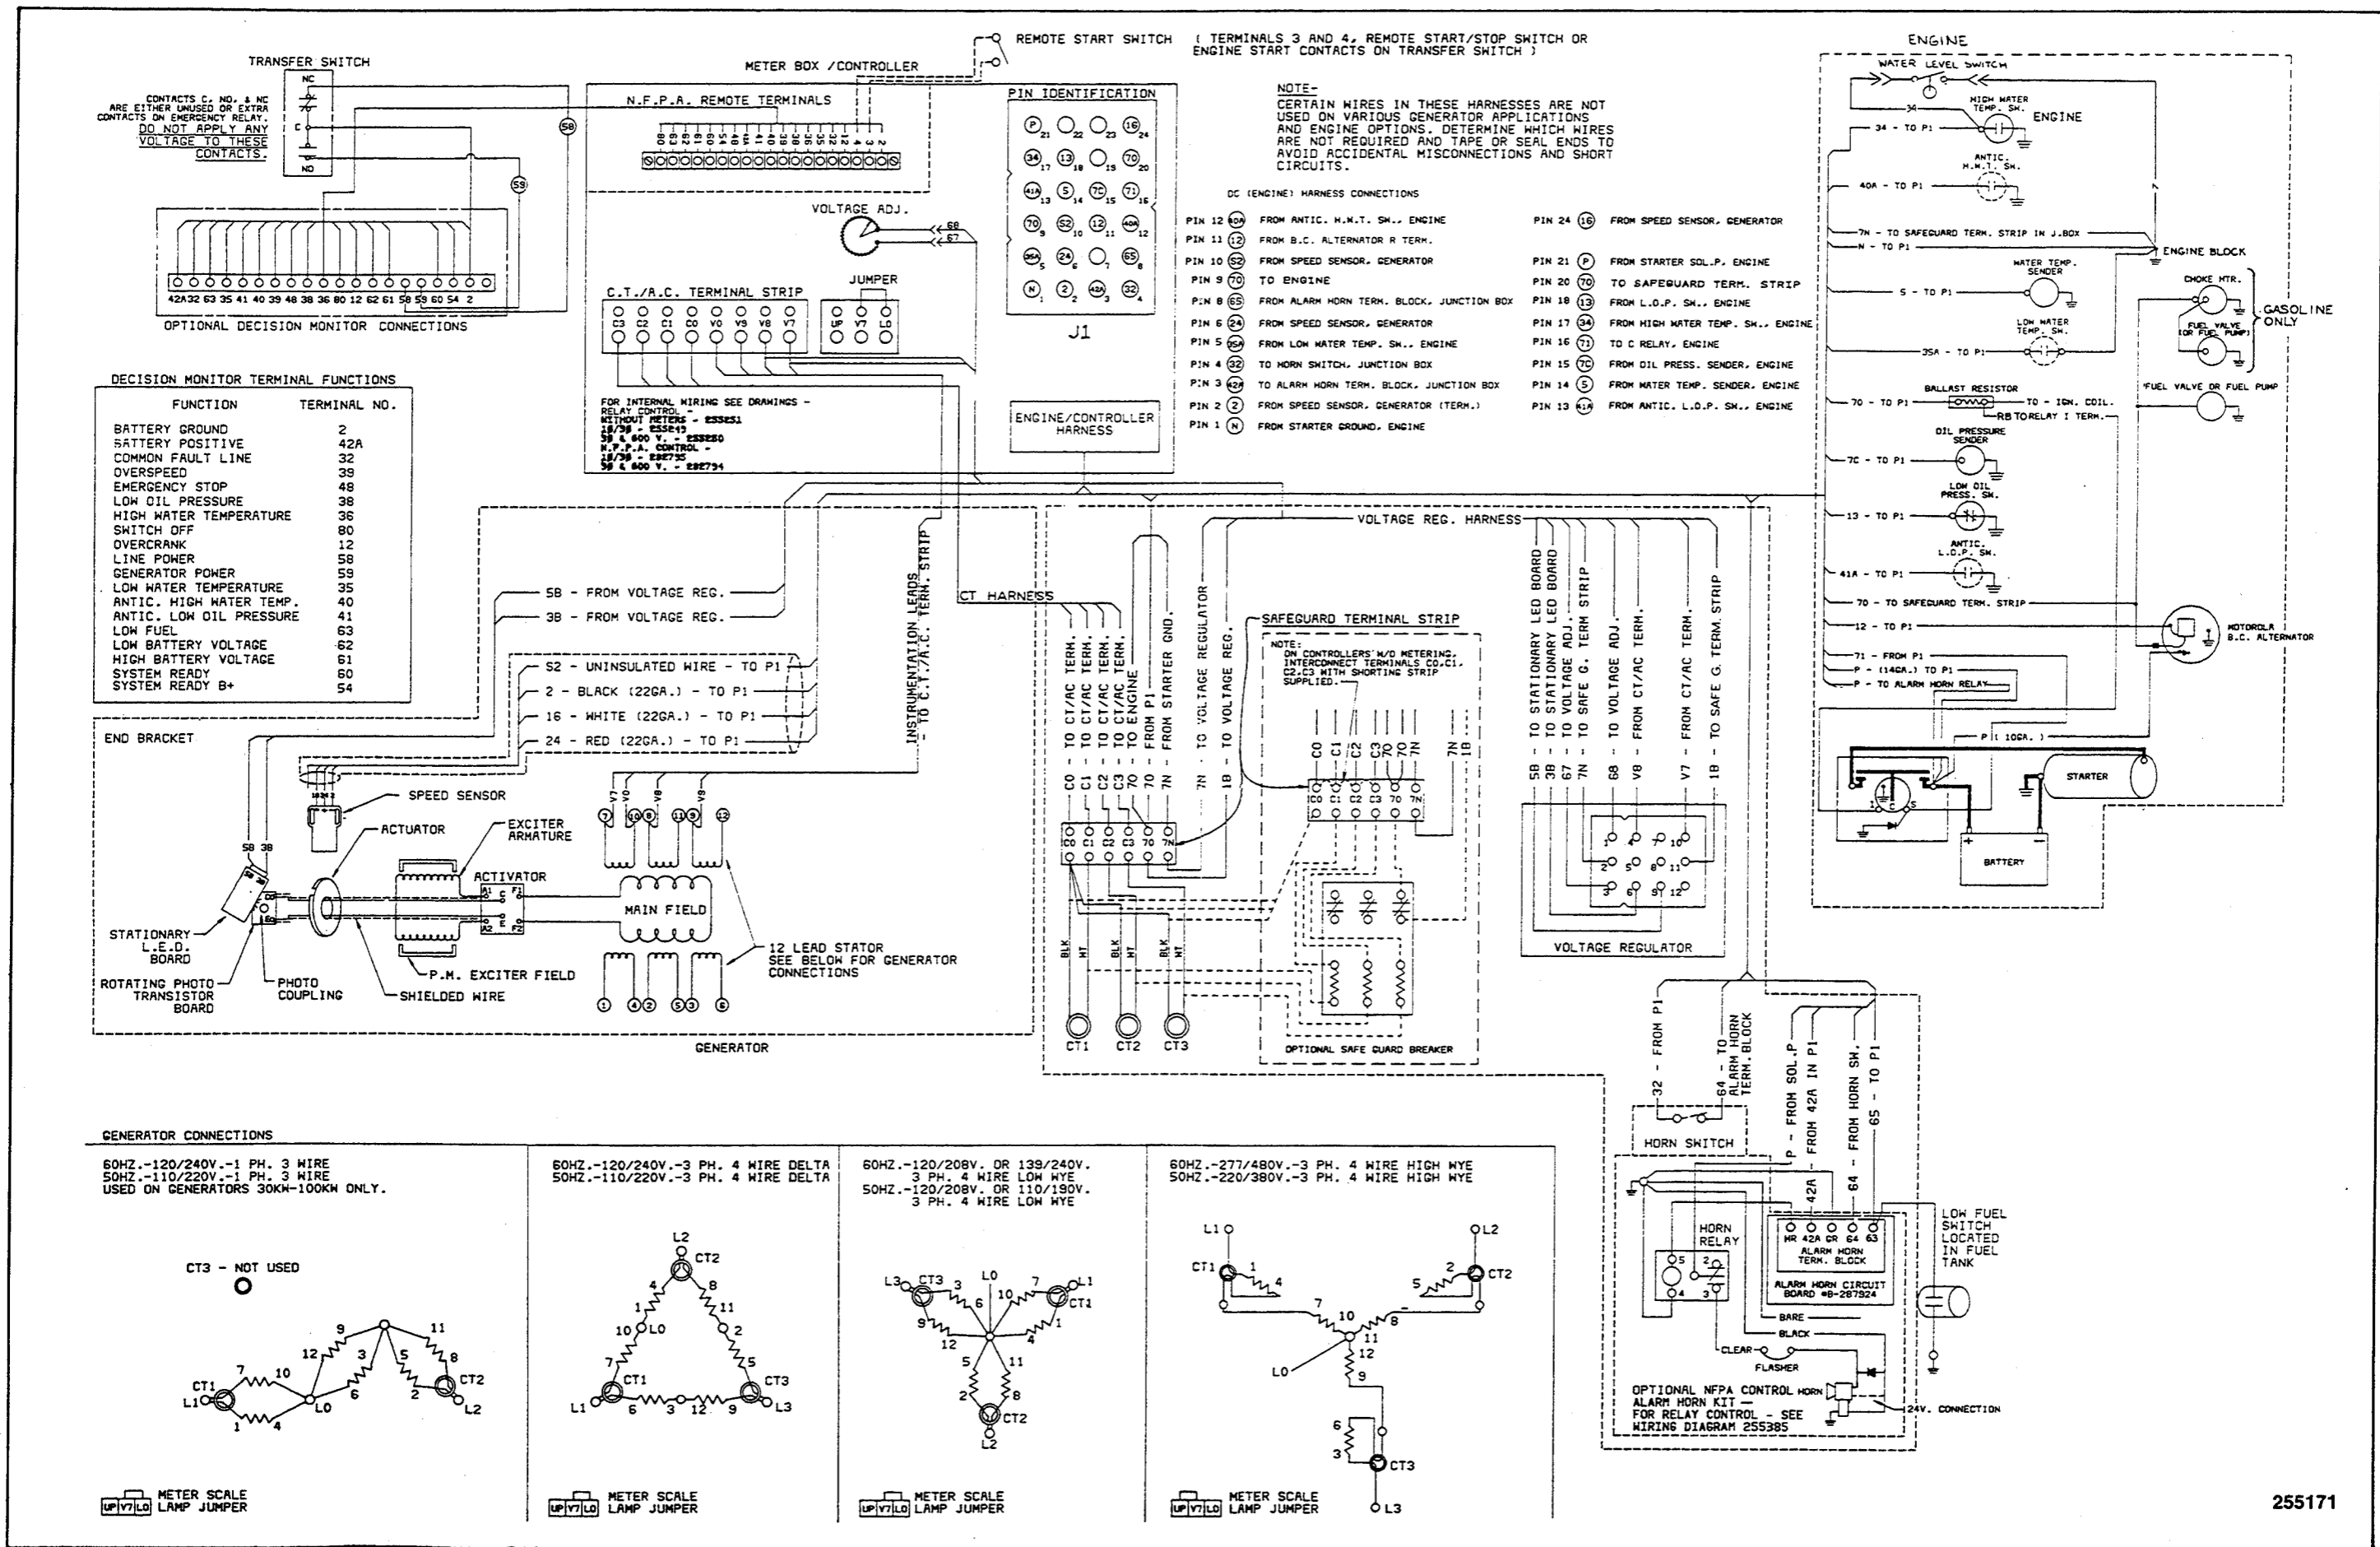

Figure 7-3. Ford CSG-649 Gas/Gasoline w/Breaker Ignition, 1-Phase/3-Phase
- Figure 7-3. Ford CSG-649 Gas/Gasoline w/Breaker Ignition, 1-Phase/3-Phase